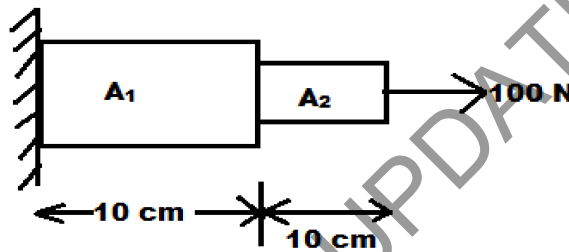

Figure 1.
- 1 Consider a bar as shown in Figure 1. An axial load of 100 N is applied. [15]